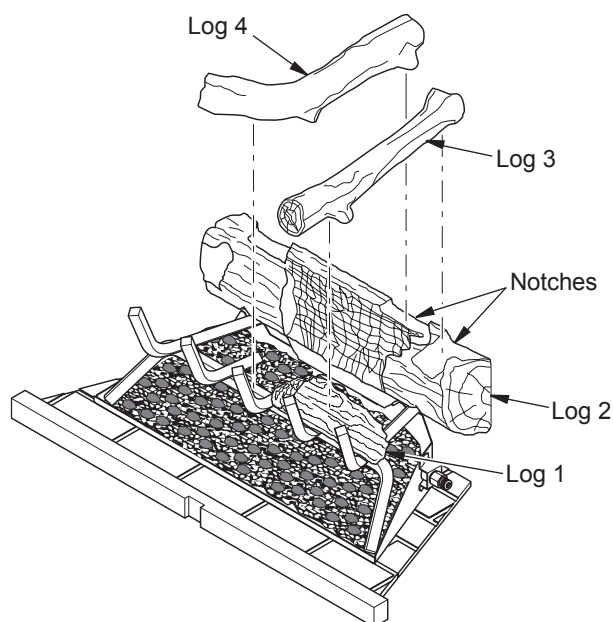
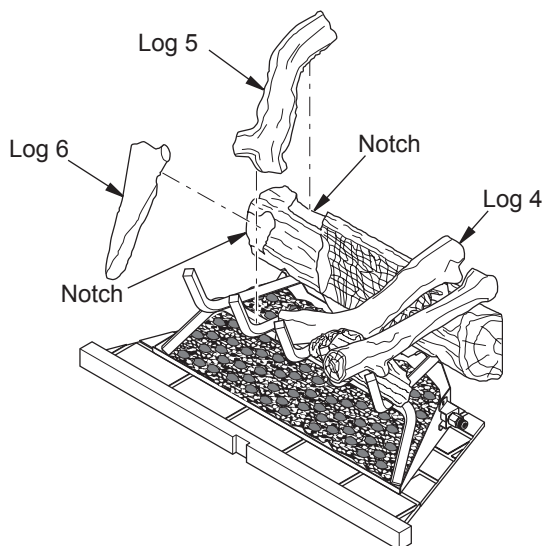
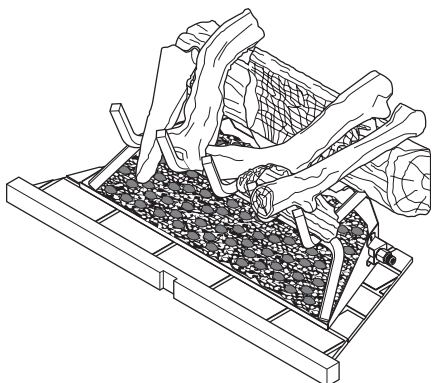

Figure 26 - Installing Logs 3 and 4
Figure 27 - Installing Logs 5 and 6
Figure 28 - Logs Installed for M36, M36P, VM36 and VM36P Models
3. Place log 3 into notch on log 2, resting the front end on top of log 1 (see Figure 26).
4. Place the upper end of log 4 into the notch on log 2 as shown in Figure 26. Rest the lower end of log 4 onto the middle grate finger as shown in Figure 27.
- Place the upper end of log 5 into notch on the left of log 2 (see Figure 27). Rest the lower end of log 5 on the grate as shown in Figure 28.
- Insert the lower end of log 6 between the first two grate fingers and position the upper end of log 6 into the notched area on the front of log 2 as shown in Figure 28.